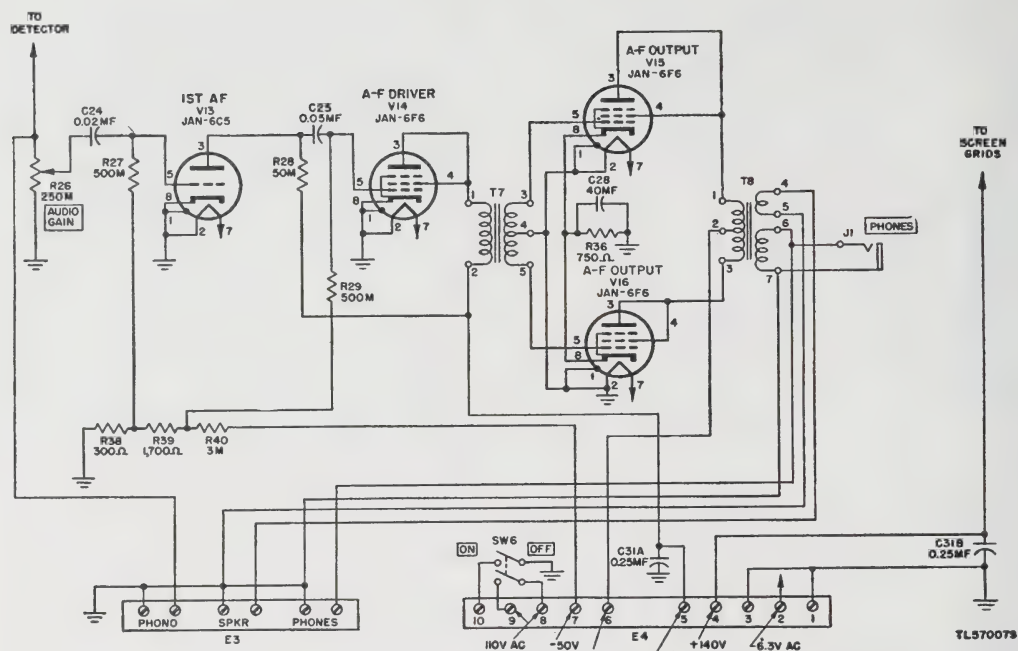

Figure 33. Radio Receiver BC-779-B, functional diagram of a-f amplifier stage.
a. The signal voltages across the untuned secondary of i-f output transformer L32 are applied to diode detector Tube JAN-6H6 (V8). The two diode sections are connected in parallel and the tube acts as a half-wave rectifier. The diode load is composed of 100,000-ohm resistor R48, 75,000-ohm resistor R24, 50,000-ohm resistor R25, and 250,000-ohm resistor R30 in series between L32 (point A) and the cathode of V8 (point C). The entire load resistance is bypassed by 50-mmF capacitor C44 which acts as an r-f filter. Two additional 50-mmF capacitors, C45 and C26, also provide r-f filtering. The rectified diode current passes through the load resistance, and the load voltage variations are a function of the modulation of an incoming signal. The voltage across R25 is taken as output voltage and applied to 250,000-ohm AUDIO GAIN potentiometer R26 (fig. 33).
67. A-F Amplifier (fig. 33)
a. An input transformer, T1, T2, or T3, is connected to the power source by 7-foot line cord W1 and is fused by 2-ampere (amp), 250-v fuse F1. Terminals 8 and 9 of terminal strip E1 are connected to terminals 8 and 9 of receiver terminal strip, E4 (fig. 33) by the connector cable. Closing receiver ON-OFF switch SW6 therefore completes the primary circuit of the transformer. The average power consumed is 180 watts.